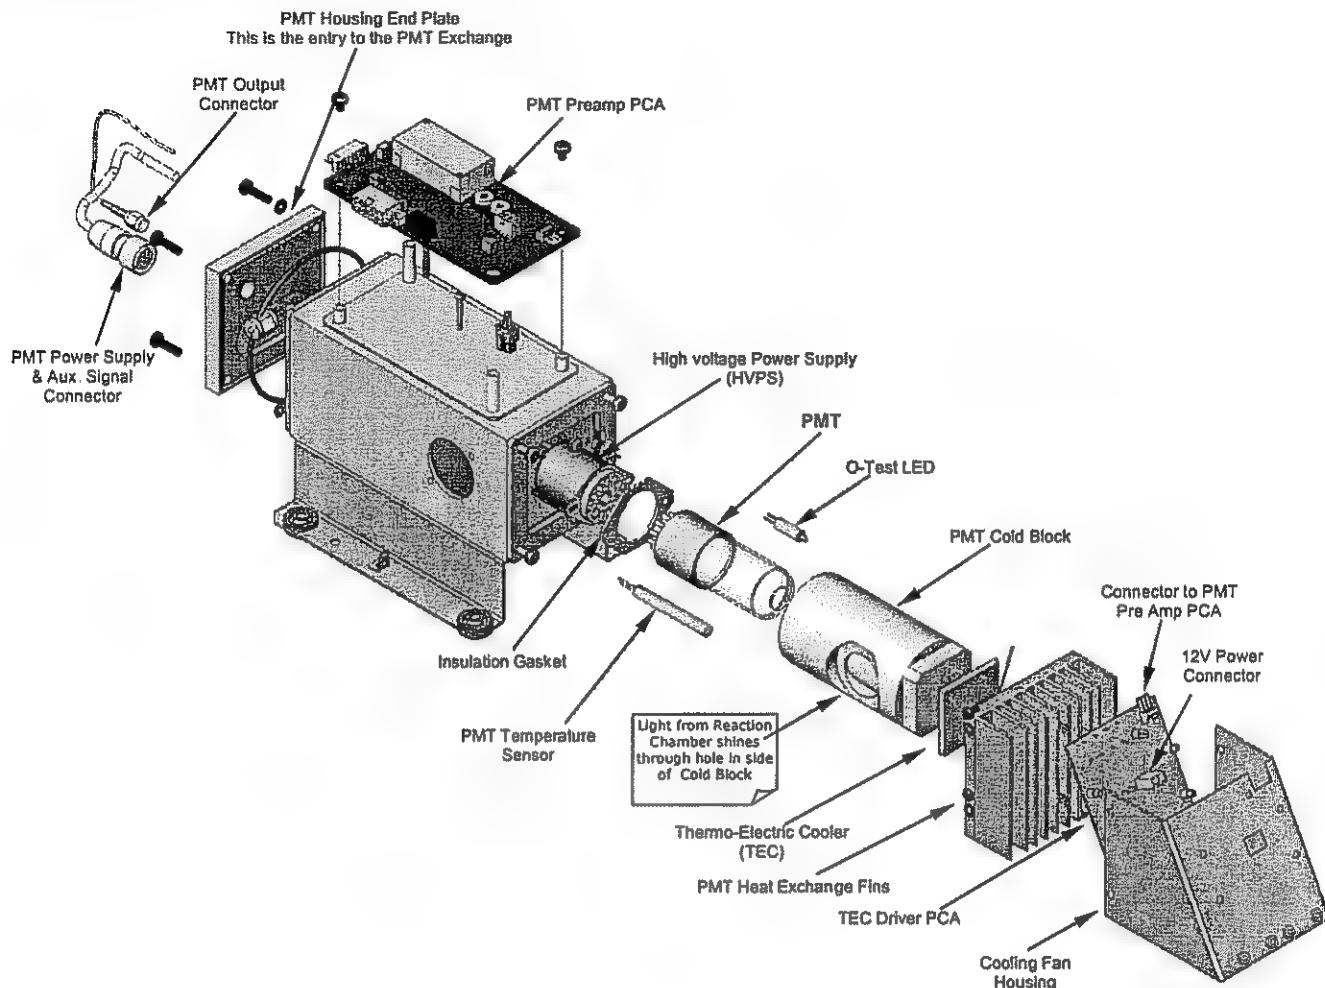

Figure 10-14: PMT Housing Assembly
- Figure 10-14 shows an exploded view of the PMT Assembly